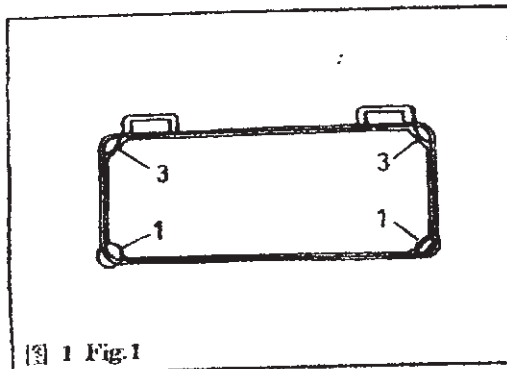

图 1 Fig.1
将两只油盘支座 1 和两只油盘座垫 3 分别装在台板凹槽的四角, 用油盘座钉 2 固定之, 再装上油盘 4 (图 1. 2)
Put the oil rubber cushions (1) and oil pan felt cushions (3) separately on four corners of notch of the table, fix them with the screw of oil pan (2), then install the oil pan (4). (Fig.1,2)